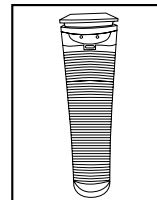

Fig. 4
4. Place the tabs at the bottom of the grill plate into the base of the unit. Gently push the grill plate back into place until you hear a click sound indicating that the grill is firmly latched. Fig. 4